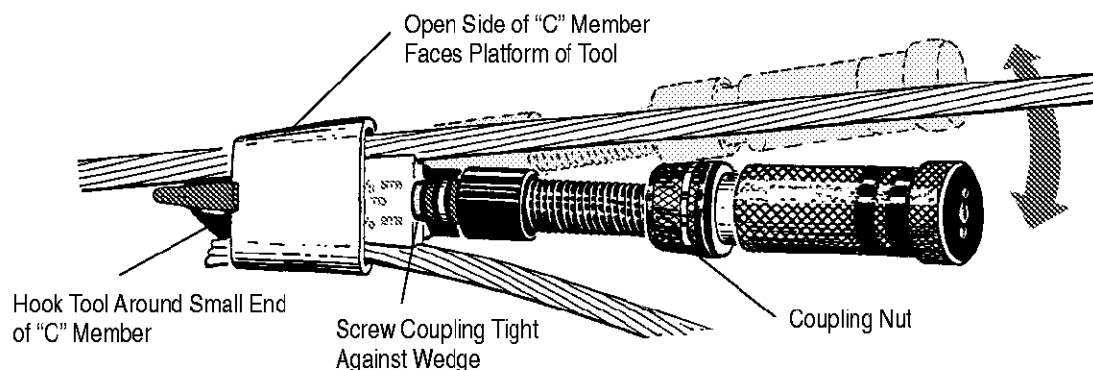

Figure 19
2. Hook head of tool over the small end of tapered “C” member with the open side of the “C” member facing the tool platform. See Figure 19.